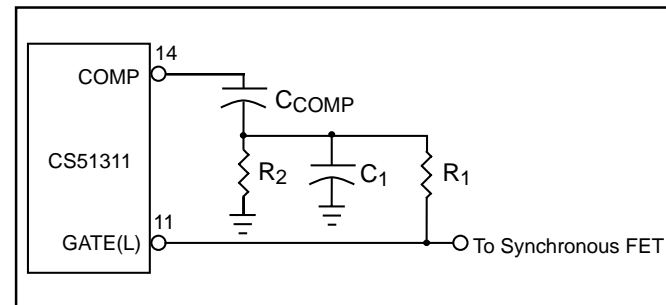

Figure 11: Small RC filter provides the proper voltage ramp at the beginning of each on-time cycle.
The circuit that implements this function is shown in Figure 11.
The ramp waveform is generated through a small RC filter that provides the proper voltage ramp at the beginning of each on-time cycle. The resistors R1 and R2 in the circuit of Figure 11 form a voltage divider from the GATE(L) output, superimposing a small artificial ramp on the output of the error amplifier. It is important that the series combination R1/R2 is high enough in resistance not to load down and negatively affect the slew rate on the GATE(L) pin.